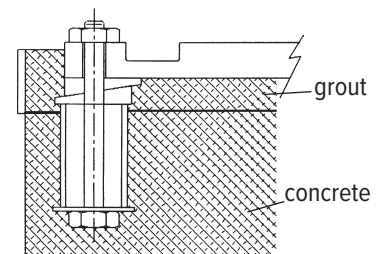

figure 7
- The foundation that the pump will be sitting on should be strong enough to support the pump as well as absorb any vibration that the pump will produce. A concrete platform should be acceptable. Bolts embedded in the concrete can be placed by using a template or drawing. See figure 7. The use of a pipe sleeve larger than the bolt will compensate for base movement for final bolt location.